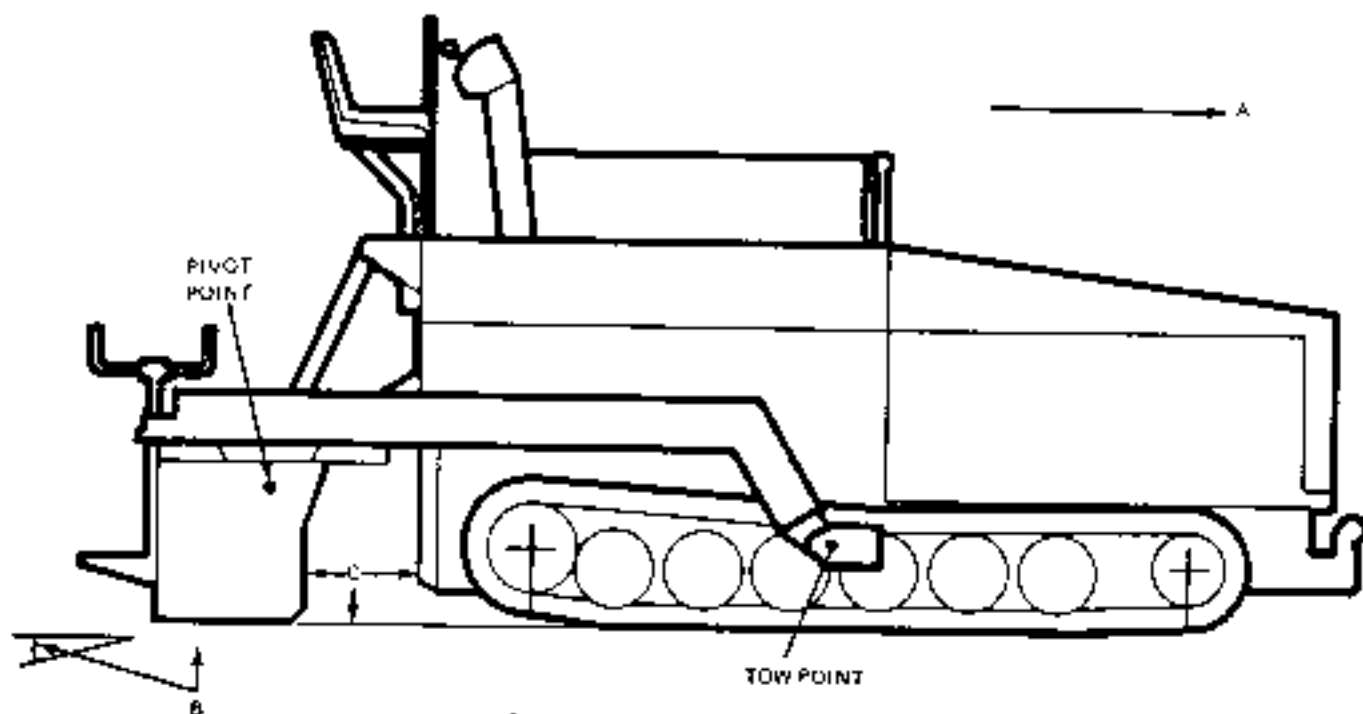

FIGURE F-1 - Forces Effecting Speed Operation
A. FORWARD SPEED (Refer to Figure F-1)
B. ANGLE OF ATTACK (Refer to Figure F-1)
C. HEAD OF MATERIAL (Refer to Figure F-1)
Of all the forces the most important and the most difficult to control is the head of material. The mass of material ahead of the screed is exerting pressure in four directions (Refer to Figure F-1) The head of material should remain constant in order to obtain a good bump free riding surface.